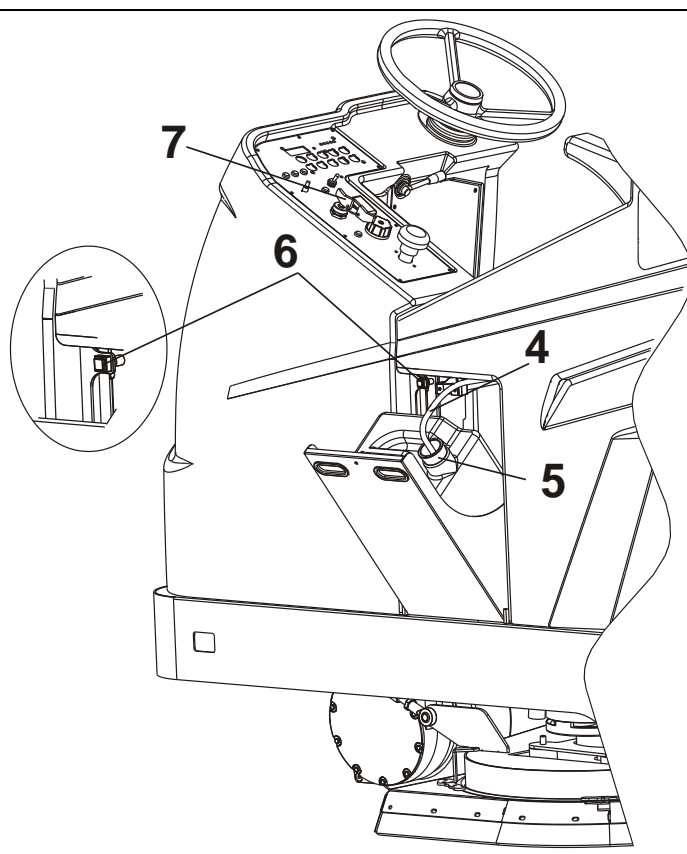

FIG.2
- Once the can has been fitted, remove the cap (pos. 3) and insert the pipe (pos. 4), making sure the filter reaches the bottom so as to suction up all the detergent in the can.
- Block the pipe (pos.4) by means of the cone (pos.5) inserting it in the can with a slight pressure (FIG.2).